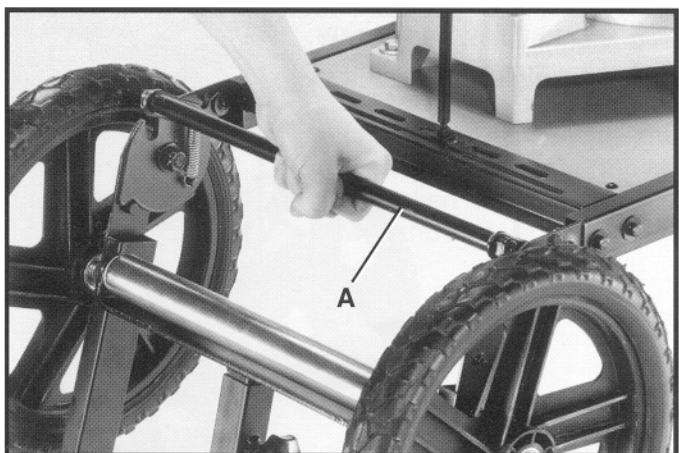

Fig. 49
1. To fold saw stand for storage or transportation to a different location, lift up bar (A) Fig. 49, to disengage leg lock. **IMPORTANT:** Leg on wheel end of saw stand should be folded first.